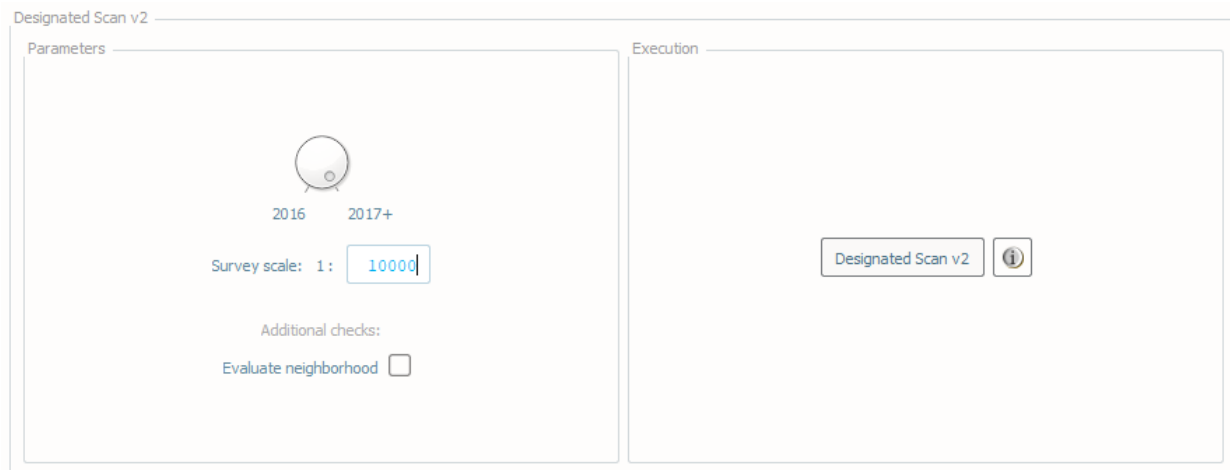

Fig. 2.21: The **Scan Designated** tab.
- Select the **Scan Designated** tab (Fig. 2.21) on the bottom of the QC Tools interface.